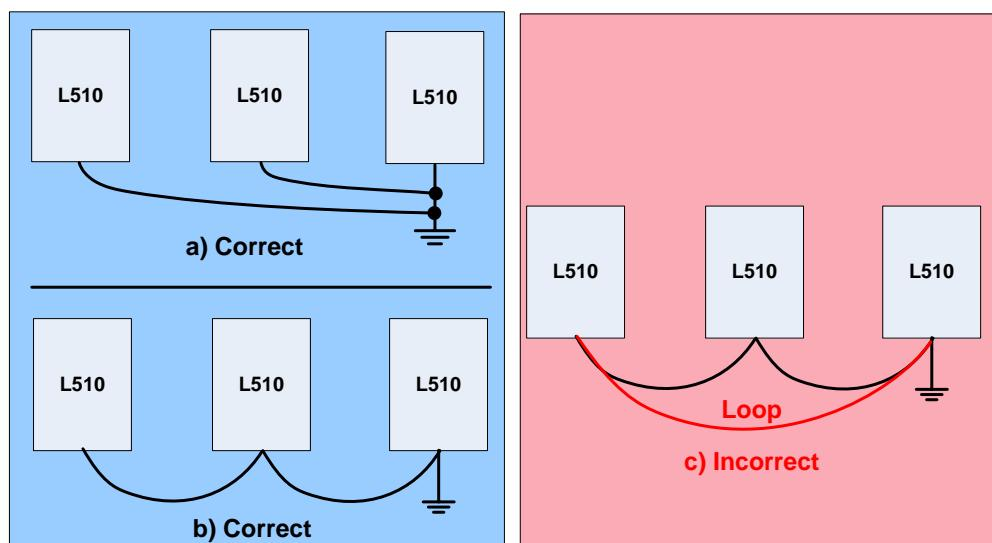

Fig. 3.10.1 Inverter Grounding
1. Connect the ground terminal (E) to ground having a resistance of less than  $100\Omega$ .
4. When using more than one inverter, be careful not to loop the ground wire, as shown below in Fig. 3.10.1.